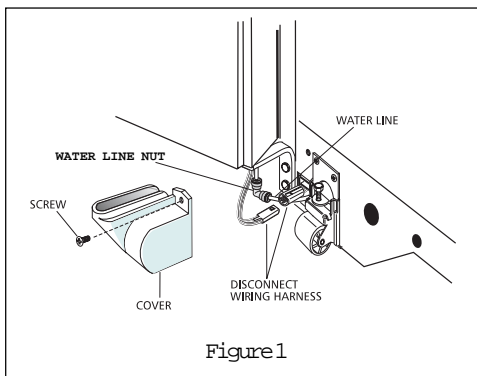

Figure 1
2. Remove the wiring cover located over the lower hinge of the freezer door. The cover is held in place by a single screw. (Figure 1)